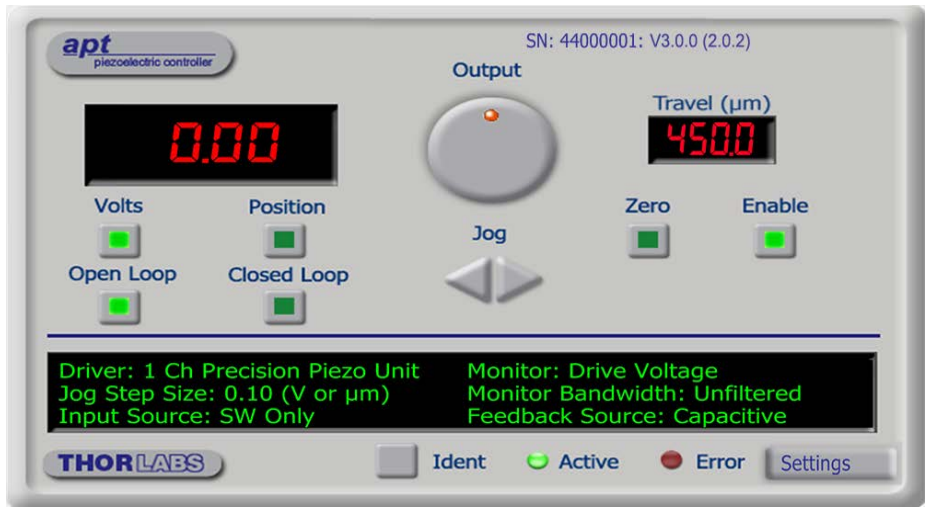

Fig. 4.1 Piezo Controller Software GUI .
- 2) Run the APT User program - Start/All Programs/Thorlabs/APT User/APT User. The APT server registers automatically the units connected on the USB bus and displays the associated GUI panels as shown in Fig. 4.1.
- 3) Notice how the total travel for the associated piezo is displayed in the 'Travel' window - see Fig. 4.1.